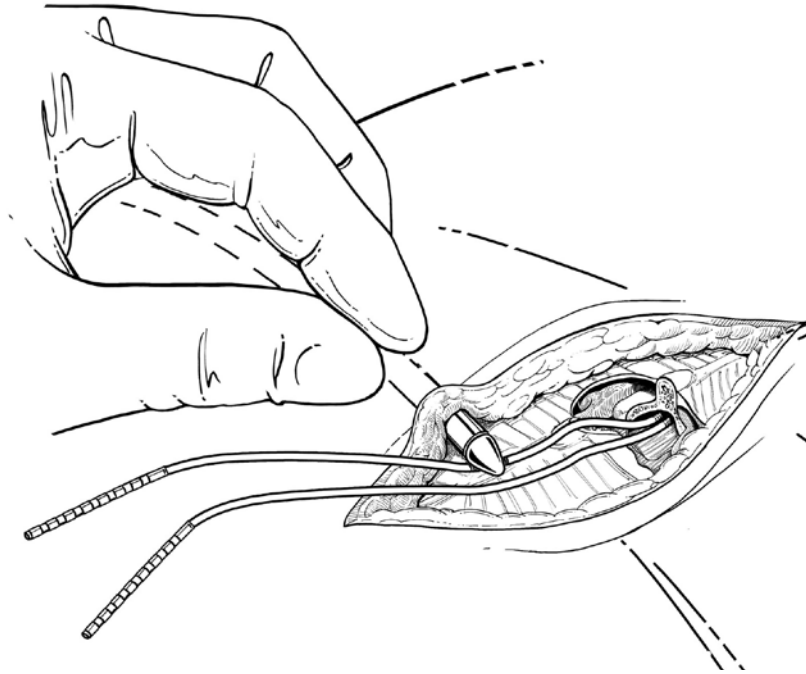

FIGURE 52
- 5 Tunnel subcutaneously from the neurostimulator pocket until the tip of the obturator is exposed at the lead site (FIGURE 52).